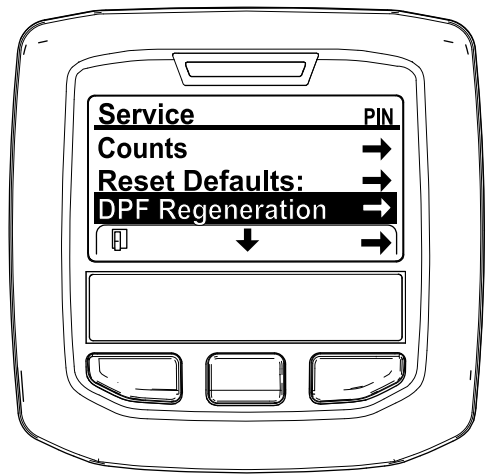

Figure 30
3. In the SERVICE MENU, press the middle button until the DPF REGENERATION options displays, and press the right button to select the DPF REGENERATION option (Figure 30).